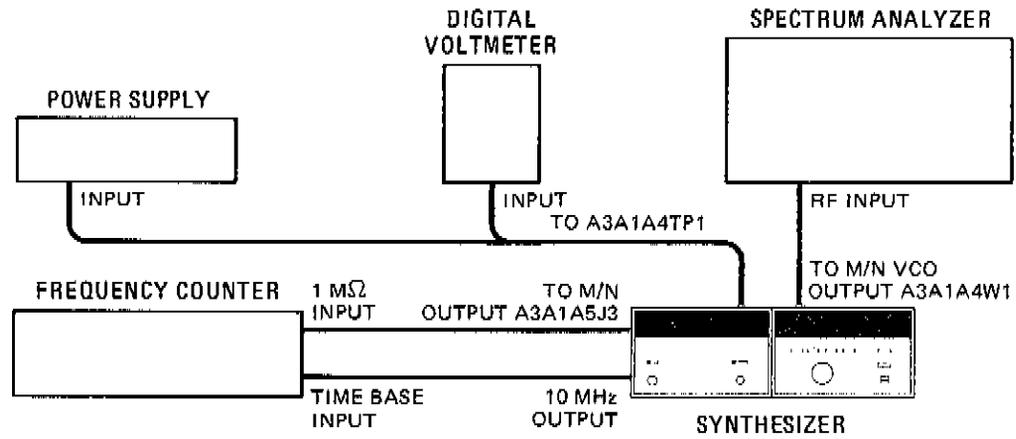

Figure 5-3. M/N Loop Adjustment Test Setup
2. Connect the equipment as shown in Figure 5-3.